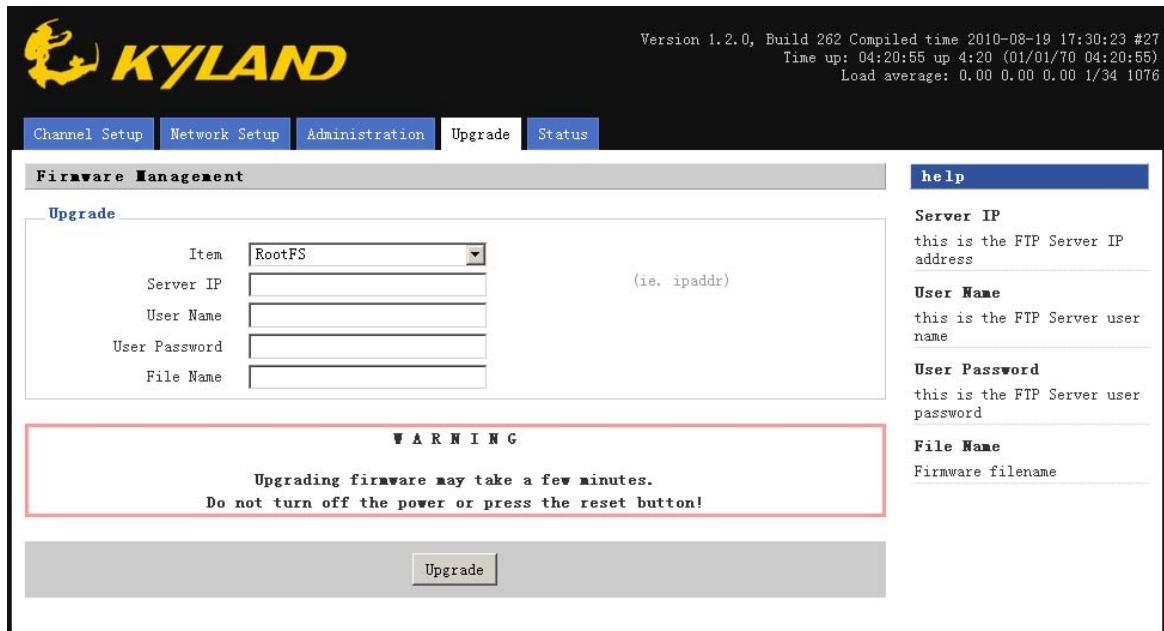

Figure 3-1 Upgrade kernel
- Enter WEB main page of serial server; click “upgrade” in the main menu to enter the software upgrade page, shown in the Figure 3-1